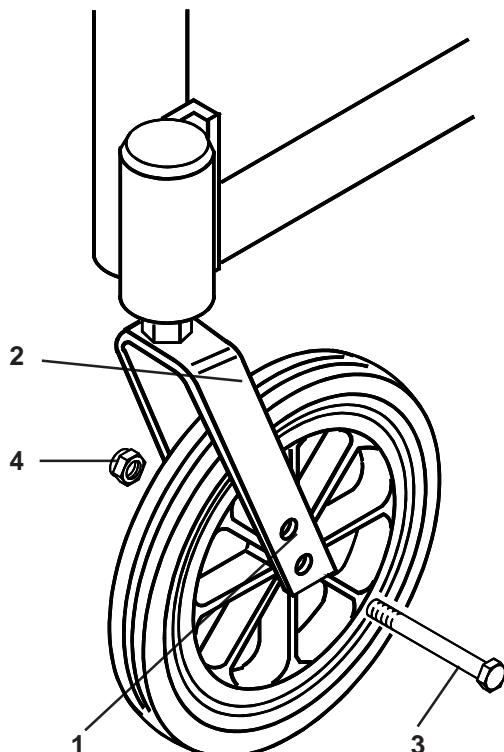

Fig 28
To adjust the height of the front of the seat (Fig. 28) use the top axle hole (1) in the castor fork (2). Remove the axle retaining bolt (3) and nut (4), axle and wheel. Replace in the top hole and tighten the axle retaining nut to 27Nm torque setting using a 13mm A/F spanner.